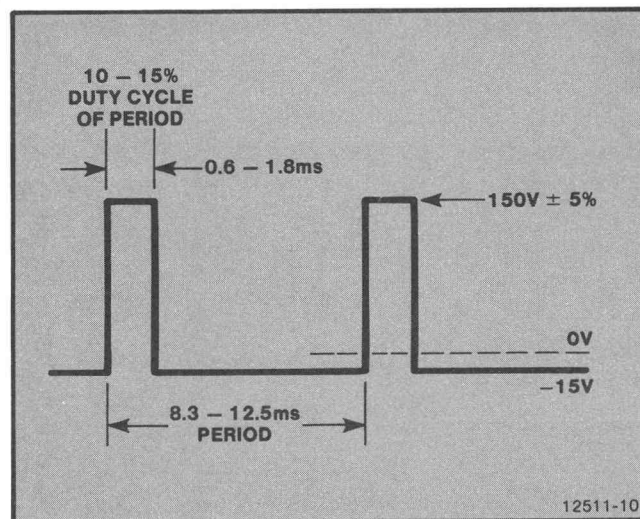

Figure 4-10. Flood Gun Anode Waveform.
5. Refer to the waveform in Figure 4-10 while the crt is in Hold mode.